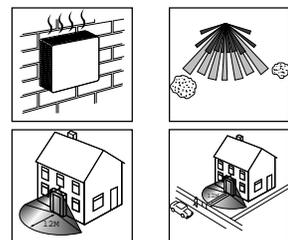

fig 4
- Position the wirefree PIR Detector anywhere within 50 metres of the Receiver Unit, but avoid mounting it on or near a large metal object, on something which is likely to move - such as a small tree or loose fence panel - or where the light can shine directly at the PIR Detector. Also avoid siting where the unit may detect any of the following: heat sources (extractor fans, tumble dryer exhausts, etc.), reflective surfaces (pools of water, white-painted walls, etc.), nearby overhanging branches (see fig 4).